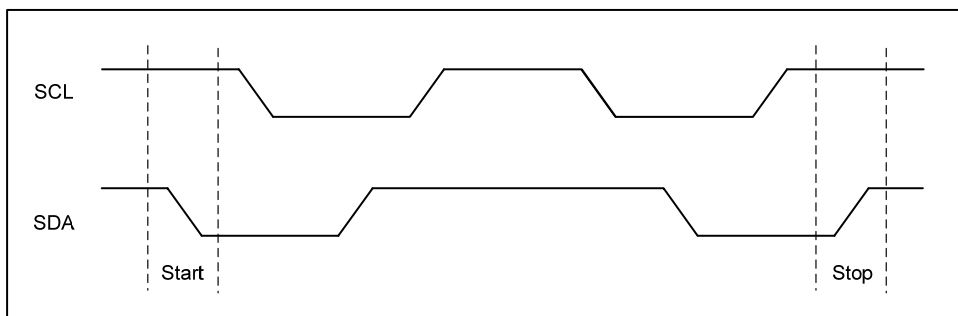

Figure2 Start and Stop Definition
**START CONDITION:** A high-to-low transition of SDA with SCL high is a start condition which must precede any other command (see to Figure 2).
**STOP CONDITION:** A low-to-high transition of SDA with SCL high is a stop condition. After a read sequence, the stop command will place the EEPROM in a standby power mode (see Figure 2).